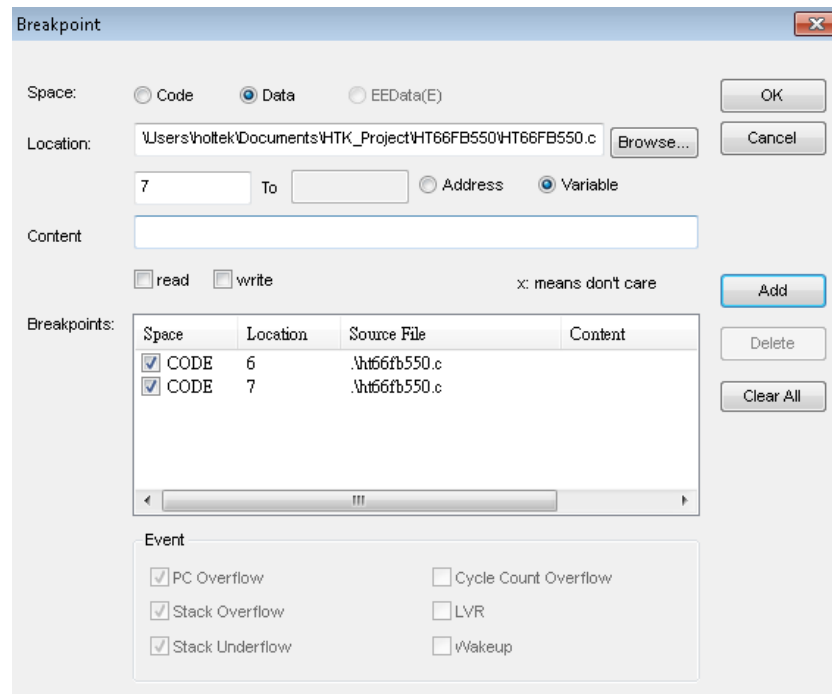

Fig 5-3
A breakpoint consists of the following descriptive items. It is not necessary to set all items, Fig 5-3:
- If the breakpoint to be set is not in the Breakpoints list box (Fig 5-3), then the descriptive items must be designated first, then added to the Breakpoints list box.
- A breakpoint dialog box is displayed (Fig 5-3)
A breakpoint dialog box is displayed (Fig 5-3)